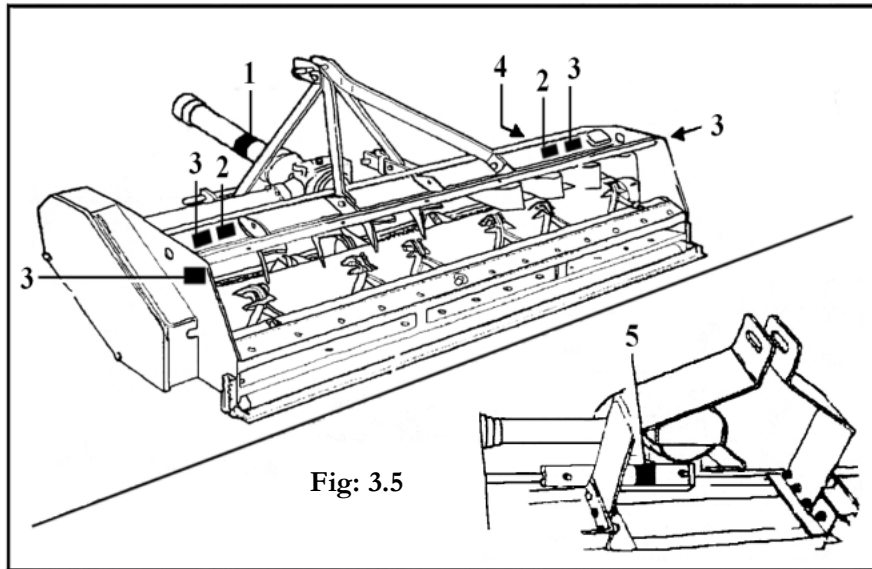

Fig: 3.5
1. Comply with the warnings on the stickers. (See **Fig 3.5** for locations & details of warning stickers on the machine) Failure to comply with the given instructions could cause death or serious personal injury.